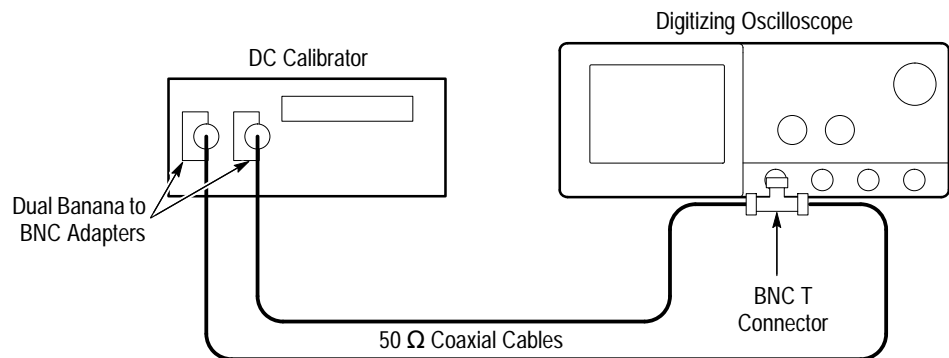

Figure 1–23: Subsequent Test Hookup
- Connect the output of a DC calibration generator through a dual-banana connector followed by a 50 Ω precision coaxial cable to one side of a BNC T connector. See Figure 1–23.
- Connect the Sense output of the generator through a second dual-banana connector followed by a 50 Ω precision coaxial cable to the other side of the BNC T connector. Now connect the BNC T connector to **CH 1**. See Figure 1–23.